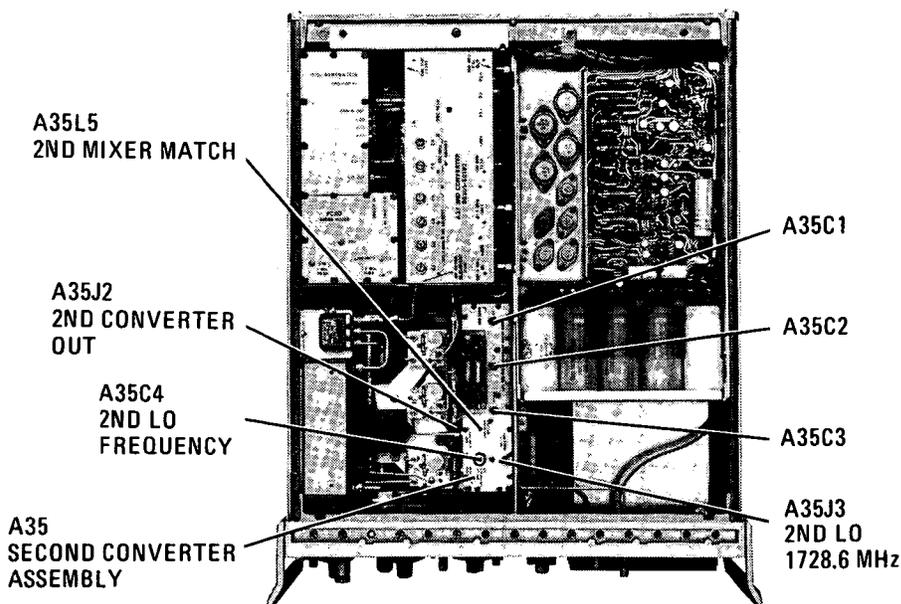

Figure 5-33. Second Converter Adjustment Locations
3. Connect frequency counter through modified adapter (HP 08565-60087) to A35J3 2ND LO (Figure 5-33) and adjust A35C4 2ND LO FREQUENCY for  $1728.60 \pm 0.1$  MHz.